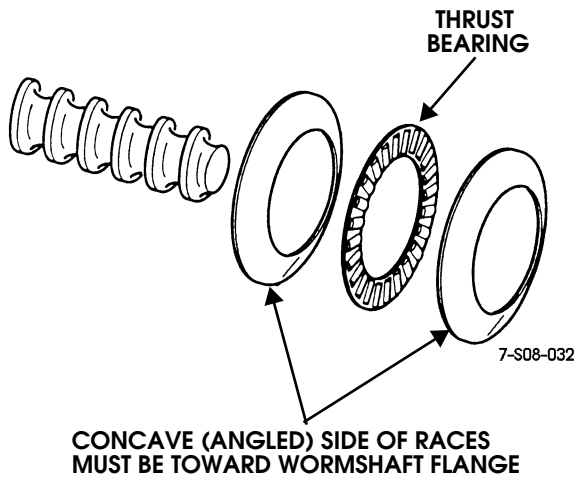

Figure 8-59: Aligning and Seating Stub Shaft In Valve Body
5. Install spool in valve body with a turning motion (Figure 8-59). Note that O-ring end of spool faces out.
7. Lubricate wormshaft thrust bearings and races with petroleum jelly to hold them in place. Then install first race followed by the bearing and remaining race (Figure 8-59).